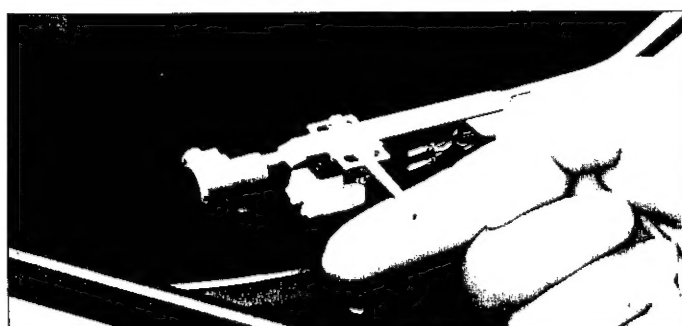

Figure 10
2. Move the tonearm to over the platter surface. The tonearm must be supported with your hand to prevent the stylus from hitting the motor board or the platter (See Figure 10).